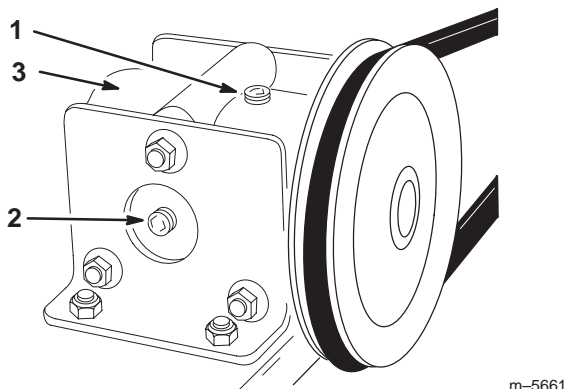

Figure 26
3. Remove the plug on the side of the gearbox. The fluid level must be up to the side hole in the gearbox (Fig 26).
5. Install the top and side plugs using pipe sealant (Fig 26).